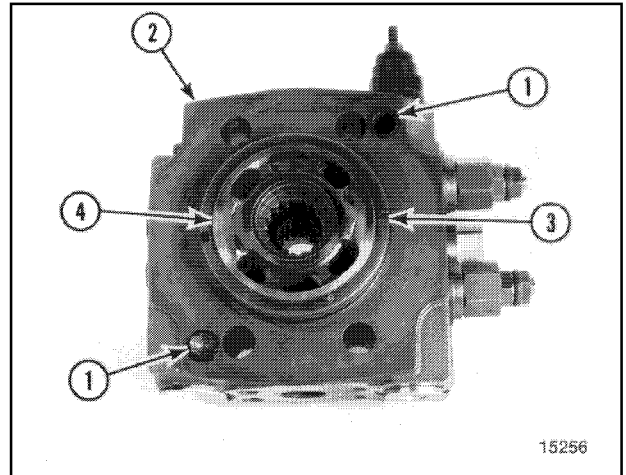

Figure 63
- O. Using a suitable adaptor, press inner bearing race (2, Figure 63) on shaft of clutch pack (20).
- P. Install three seal rings (1, Figure 63) on shaft of clutch pack housing (18).
36. Install new O-rings (1, Figure 63) on connection plate (2).
37. Coat surface of port plate (4) with clean hydraulic oil.
38. Make sure notch (3) is facing proper direction as noted during disassembly.